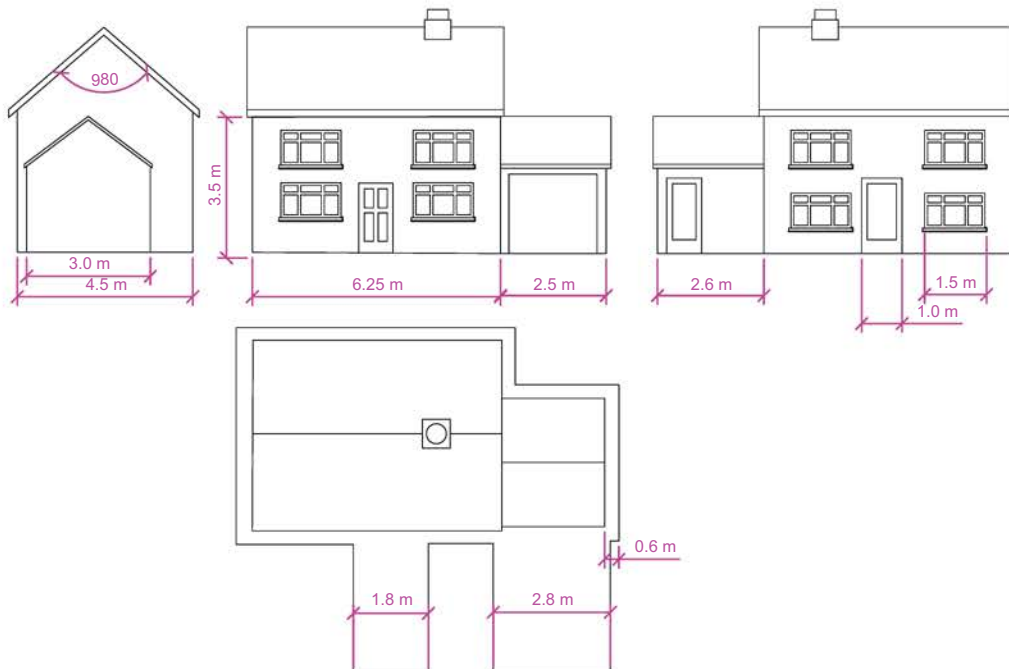
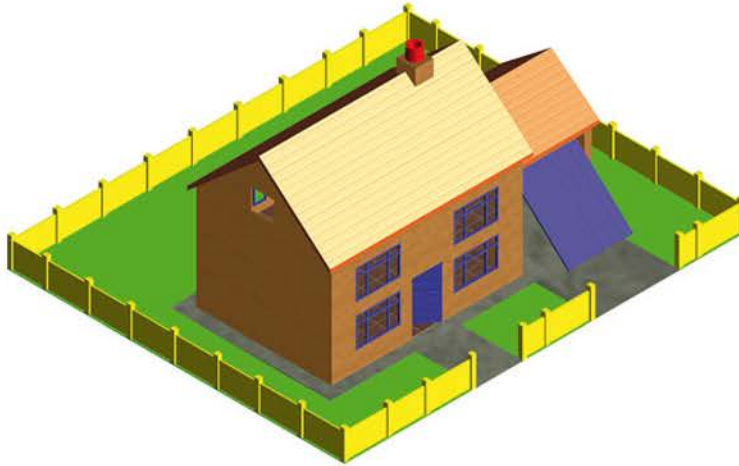

Fig. 17.32 Exercise 5 – orthographic views
Fig. 17.33 Exercise 5 – the rendered model
5. Fig. 17.32 is a four-view dimensioned orthographic projection of a house. Fig. 17.33 is a rendering of a 3D model of the house. Construct the 3D model to a scale of 1:50, making estimates of dimensions not given in Fig. 17.32, and render using suitable materials.